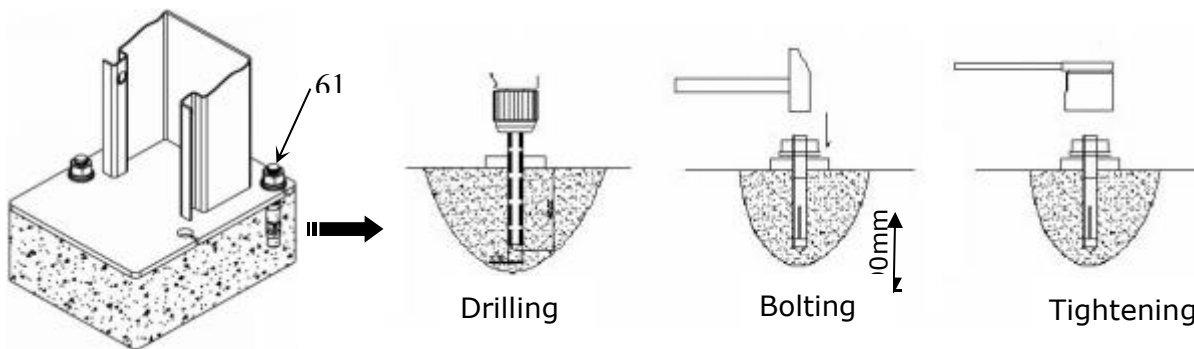

Fig. 36
2. Using the prescribed rotary hammer drill, and drill all the anchor holes and install the anchor bolts. Do not tighten the anchor bolts (See Fig. 36).